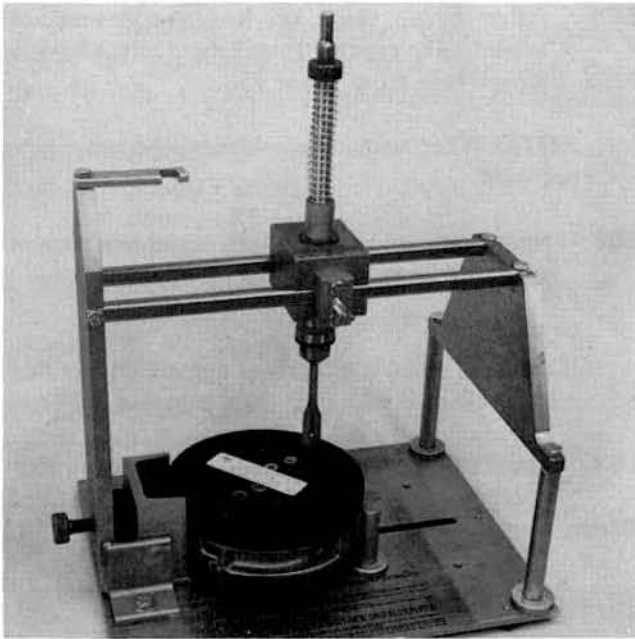

Figure 7
5.04 Adjust clamp screw until end plate can be placed in base of cutter. End plate should lie on top of flanges of stop-posts (or end-posts) and clamp jaw guides. Figure 7.
5.05 Back off clamp screw until end plate can be placed. End plates should be on the top of the flanges of the stop posts and clamp jaw guides. Figure 7.